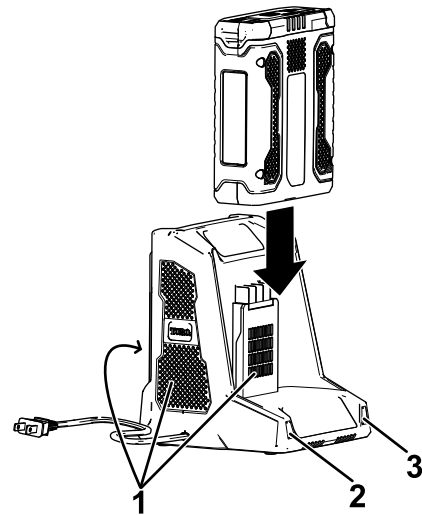

Figure 10
5. Slide the battery pack into the charger until it is fully seated (Figure 10).
3. Line up the cavity in the battery pack (Figure 10) with the tongue on the charger.